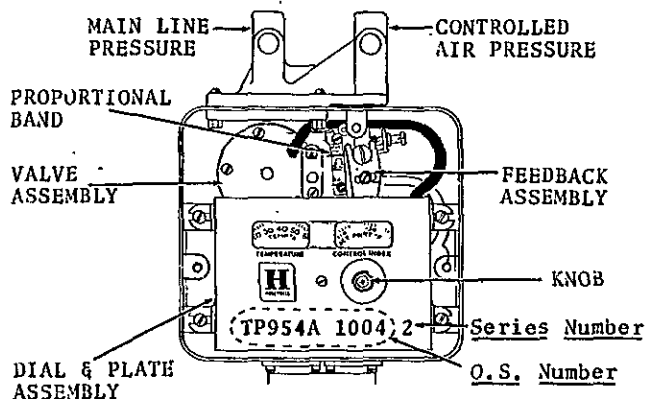

FIGURE 1: INTERNAL VIEW OF THE TP954A
Remove the cover from the TP954A--The O.S. Number and Series Number are stamped on the faceplate of the Dial and Plate Assembly. See Figure 1.
1. If the Dial & Plate Assembly is to be removed, turn the knob clockwise and adjust the control index to its lowest setting. See Figure 1.